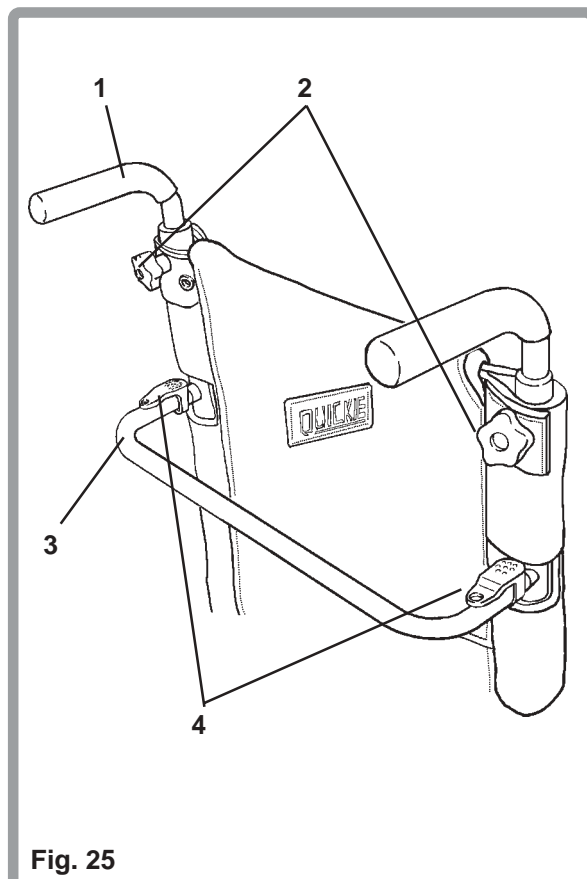

Fig. 25
Height adjustable push handles (1) are shown in Fig. 25. To adjust the height of the handles loosen the adjustment knob (2). Set the push handle to the required position and re-tighten the knob.